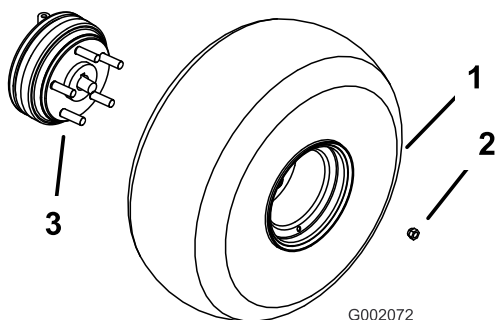

Figure 3
3. Mount the wheels with the previously removed fasteners (Figure 3) and torque to 45-65 ft-lb (61-88 N-m).